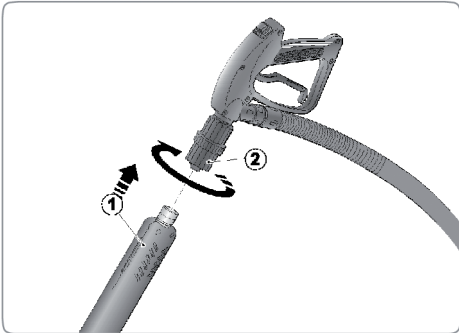

Fig. 18
Screw on the selected accessory (1) to the grip of the hose making the ring nut (2) turn as demonstrated in Fig 18.